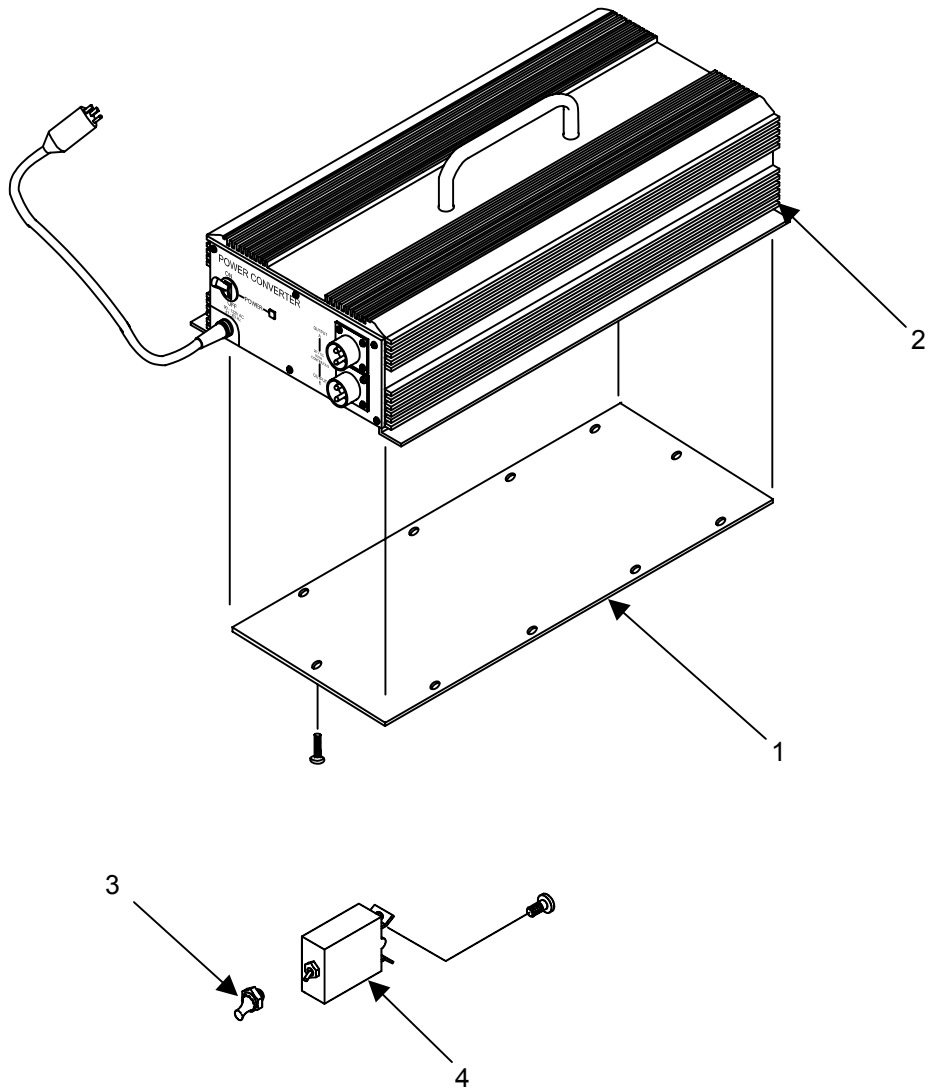

Figure 5. Replace the Main Power Switch (MS0160)
1. Remove the screws and lockwashers retaining the bottom cover (**figure 5, item 1**) of the power converter (**figure 5, item 2**), and then remove the bottom cover.
2. Loosen and remove the hex nut (**figure 5, item 3**) with protective rubber cap of the main power switch (**figure 5, item 4**).
3. Reach inside the power converter (**figure 5, item 2**) case and withdraw the main power switch (**figure 5, item 4**) from the case as far as the wiring will allow.
4. Tag and disconnect the wiring from the main power switch (**figure 5, item 4**).
5. Install the wiring as tagged on the replacement switch main power switch (**figure 5, item 4**) terminals, and retain with screws.
6. Place the switch (**figure 5, item 4**) in position in the power converter's (**figure 5, item 2**) front panel. Be sure to position the switch so that the screw terminal labeled LOAD is facing up and out of the case while the terminal labeled LINE is facing down into the power converter case.
7. Install the hex nut with protective rubber cap (**figure 5, item 3**) on the front of the power switch (**figure 5, item 4**).
8. Install the bottom cover (**figure 5, item 1**) of the power converter (**figure 5, item 2**) and secure with ten screws and lockwashers.